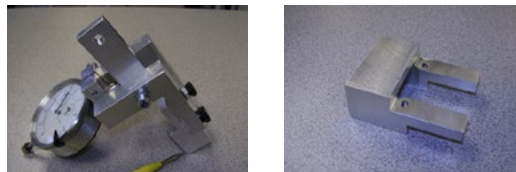

Figure 2 - Adaptor and Dial Indicator
4. Assemble the Head Timing Adaptor (PN: 33065) to the dial indicator (PN: 32453-01) as shown in Figure 2.